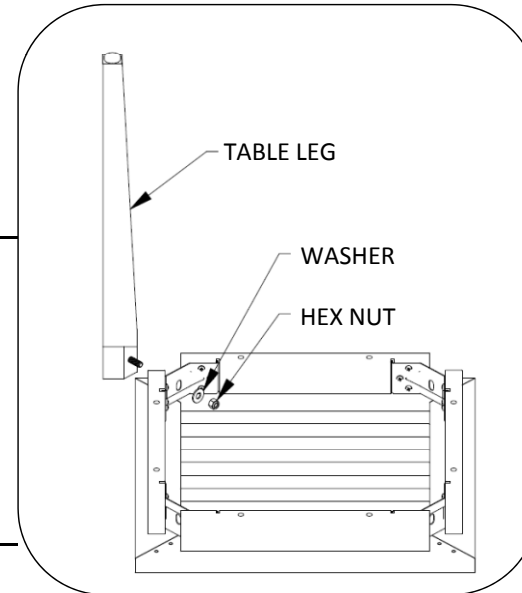

Fig. 1 – Tabletop attachment hardware
- Optional surface mount brackets each have (1)  $\varnothing 3/8$ " hole for  $\varnothing 5/16$ " max anchor. Non-corrosive anchoring hardware not included.
2. Install legs as shown in Fig. 1. Legs have glides factory-installed.